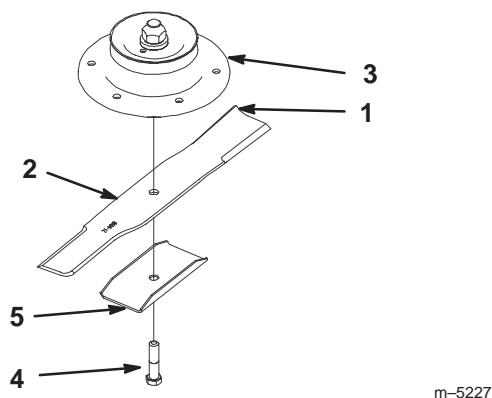
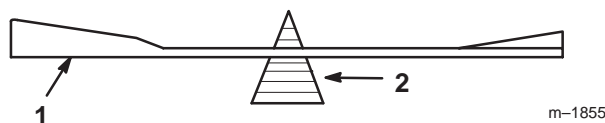

Figure 43
Figure 45
1. Hold the blade end using a rag or thickly-padded glove. Remove the blade bolt, blade stiffener and blade from the spindle shaft (Fig. 43).
2. Check the balance of the blade by putting it on a blade balancer (Fig. 45). If the blade stays in a horizontal position, the blade is balanced and can be used. If the blade is not balanced, file some metal off the end of the sail area only (Fig. 43). Repeat this procedure until the blade is balanced.
1. Install the blade onto the spindle shaft (Fig. 43).
Important The sail part of the blade must be pointing upward, toward the inside of the mower to ensure proper cutting (Fig. 43).
2. Install the lock washer and blade bolt (Fig. 43). Torque the blade bolt to 85–110 ft-lb (115–140 N•m).